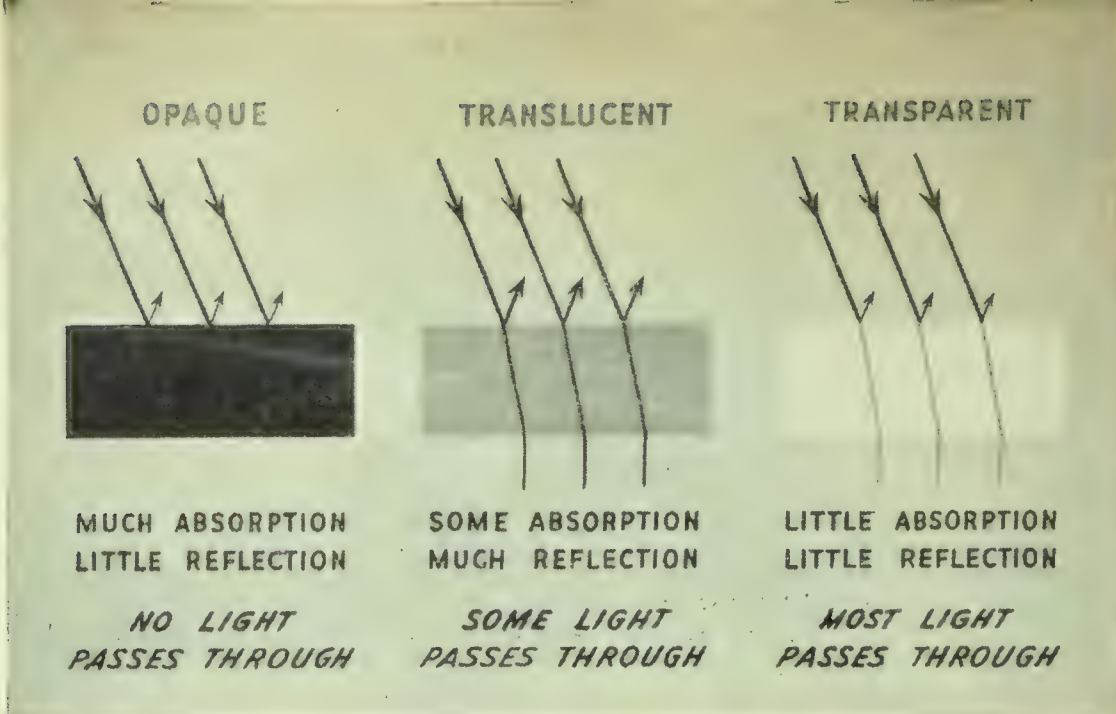

FIG. 447. Be sure that you can explain this diagram.
4. State three things that may happen to light when it strikes a material. Use the three words at the top of Figure 447.